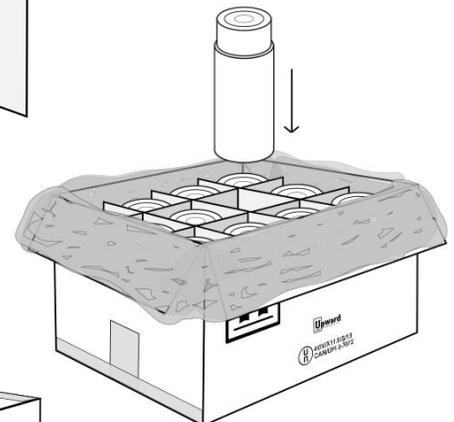

Figure 4
5. Place the partition into the carton. Place one aerosol can into each partition cell. (See Figure 4)